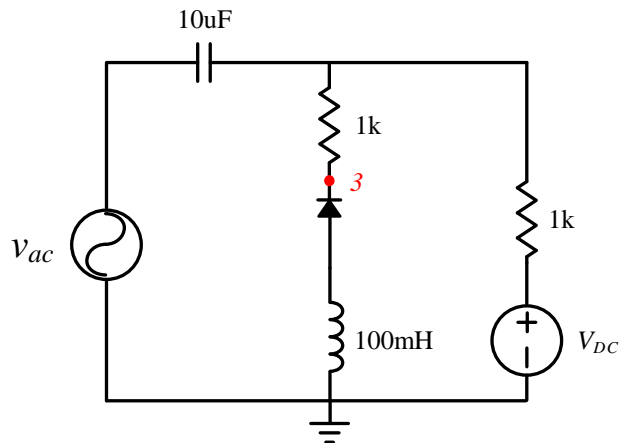

Figure 3. Circuit for capacitance measurement
2. Set up the circuit in Fig. 3.
4. For each V_d , observe v_{out} (the voltage of point (3) to the ground). Vary the frequency of the AC source until the LCR circuit reaches resonance (as indicated by a minimum p-p v_{out}). Record the resonant frequency f at this V_d . Tabulate these values and plot results for C_j vs. V_d and $1/C_j^2$ vs. V_d .